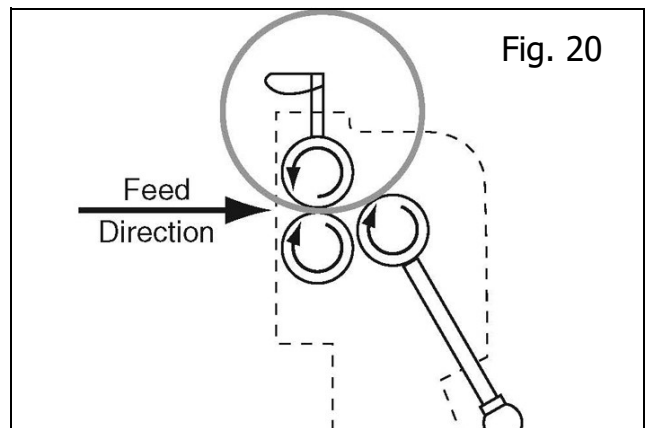

Fig. 20
7. Reduce the radius of the curve by raising the rear roller, then repeat Steps 4-7 until you have produced the desired cylinder (see the illustration in Figure 20).